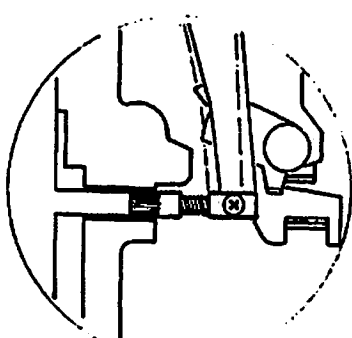

Fig. 88
* When the pin of Tool pushes Release lock nut exceedingly, Revolving adapter may not turn. (Fig. 88)